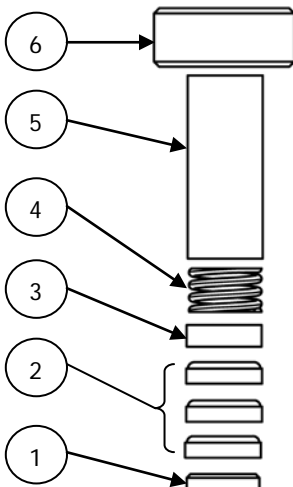

Figure 3.
- 9) Install new packing as follows (see Figure 3.):